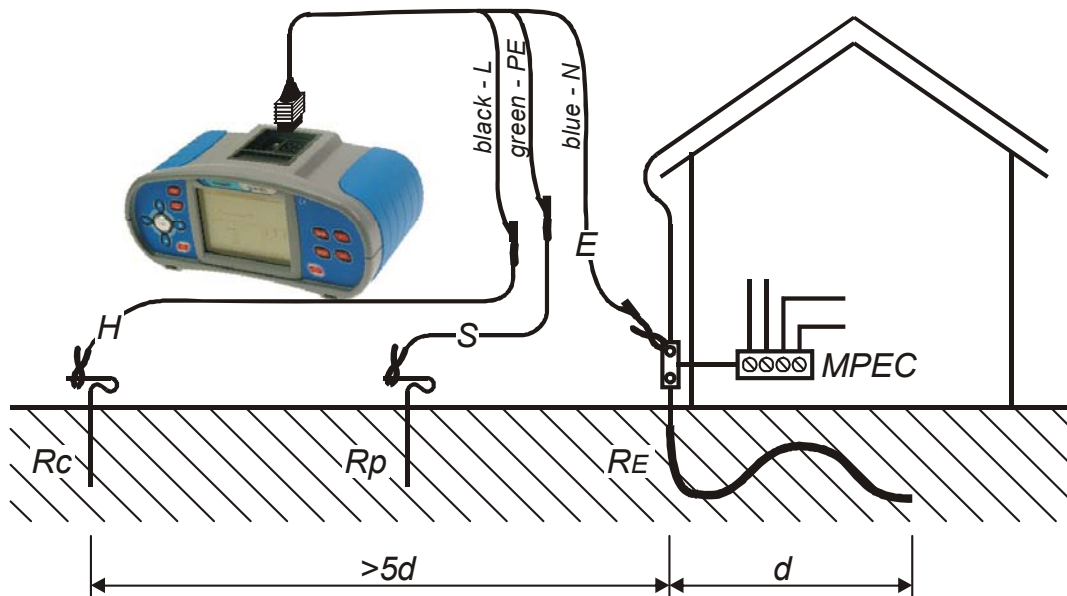

Figure 5.46: Resistance to earth measurement – PE grounding
- ❑ **Connect** test leads to the tested object (see figures 5.46 and 5.47).